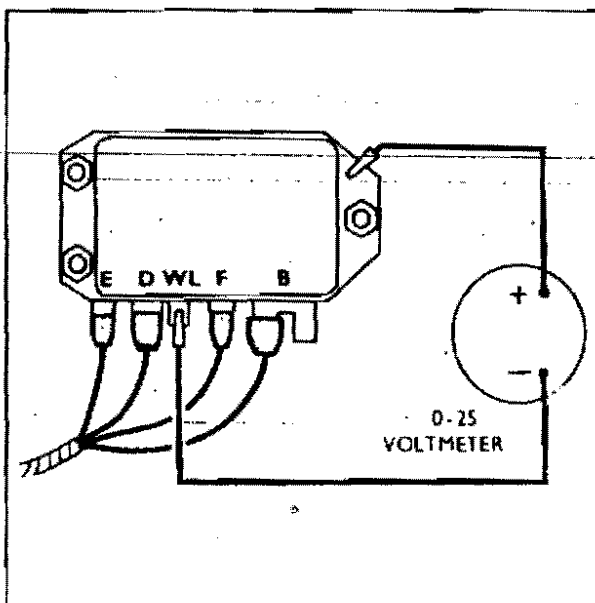

Fig. 12—Cut-out, Cut-in Voltage
**CUT-OUT, CUT-IN VOLTAGE (see Fig. 12)**